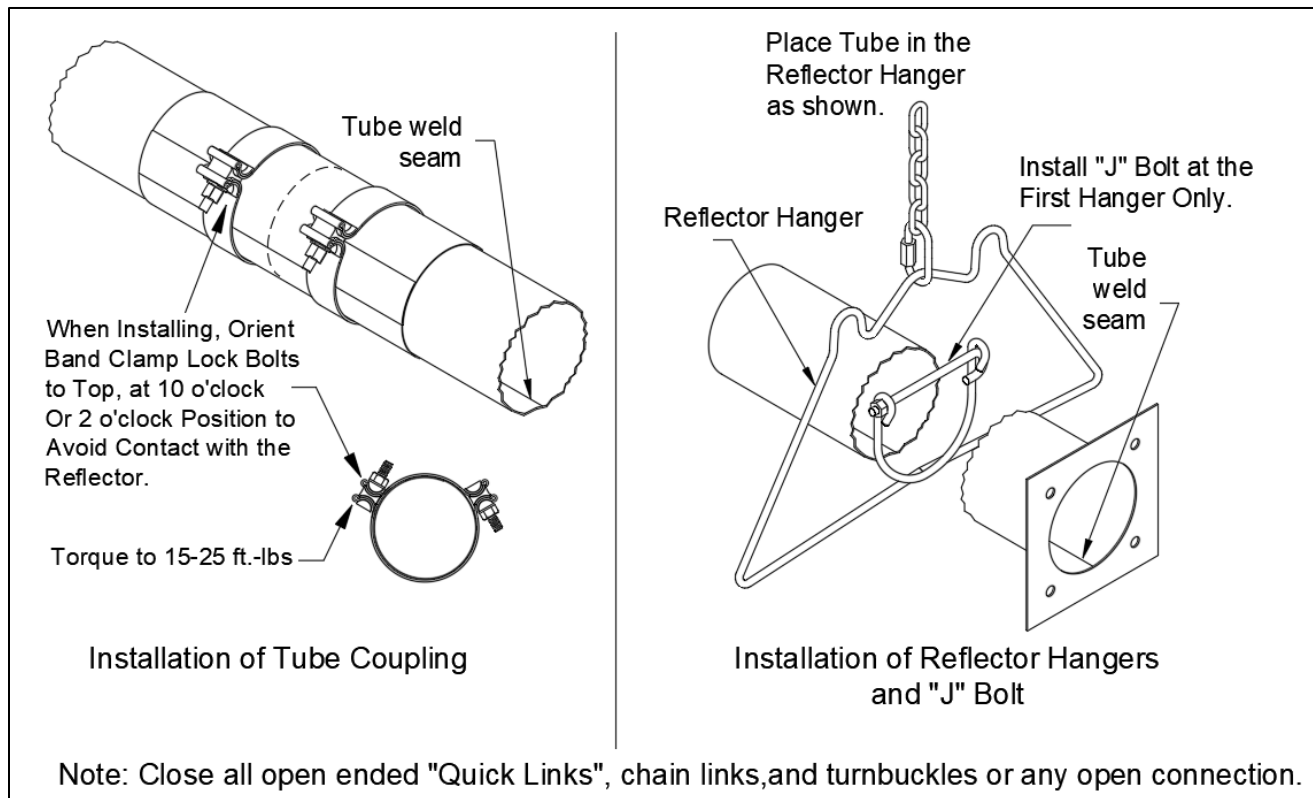

Figure 12: “J” Bolt and Coupling Installations
- Tighten the cradle loops of the first hanger with the “J” Bolt found in the burner box, to snugly hold the combustion tube from rotating see Figure 12
Note: In order to obtain smoothly sealed coupling liners, tighten each of the coupling bands progressively and alternately. Tightening one band completely before the other may result in an undesirable wrinkle in the liner (refer to Figure 12). **Be sure not to over torque the coupling. (Torque coupling to 15-25 lbf-ft).**